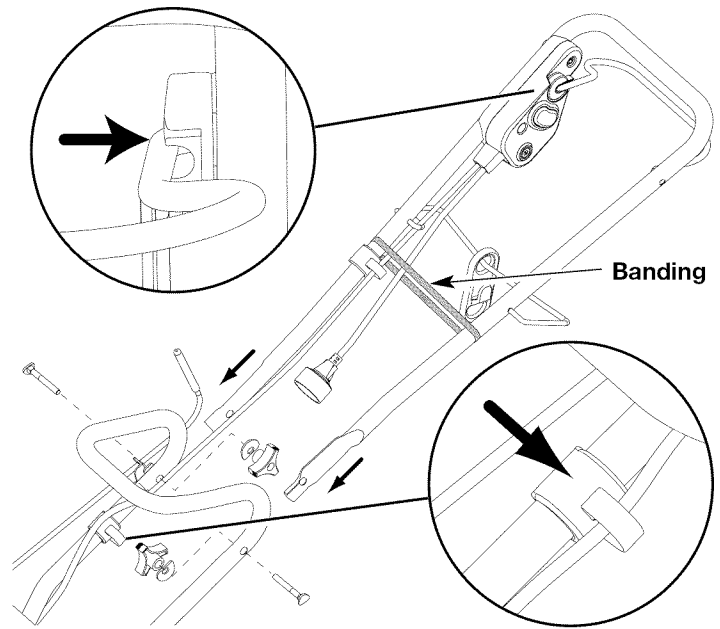

Fig. 1
1. When you unpack the unit, loosen and remove the two knobs and washers from the inside of the lower bars (Fig. 1).
2. Hold the handle bar in the position shown in Figure 1 and slide it onto the lower bars making sure that the ends of the handlebar are on the inside of the lower bars.
4. Check to make sure the bail is assembled into switch assembly (Fig. 1).
7. Clip the switch cable to the cable restraint on the lower bar as shown in the inset of Figure 1.
8. Remove the banding once the upper handle is assembled to the lower handle (Fig. 1).